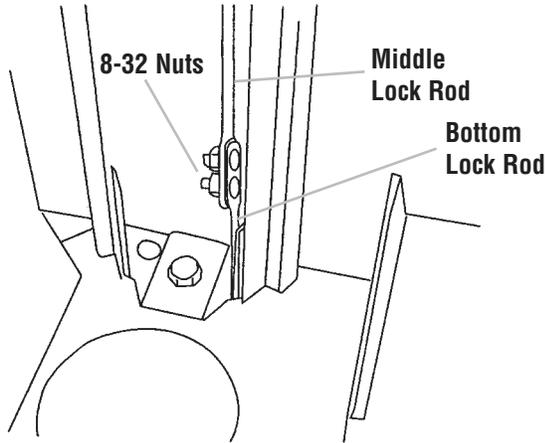

Figure 21
STEP 17 - POSTS, PANELS, AND LOCK ASSEMBLY (Figures 21–22)
- Attach the middle lock rod to the bottom lock rod by inserting the threaded studs through the holes in the lower lock rod and securing with (2) 8-32 nuts (Figure 21).